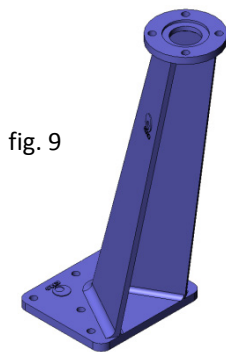

fig. 9
Leaning floor stand (fig. 9)
- The standard floor stand is 800 mm high and may be straight or leaning (fig. 9 and 10).